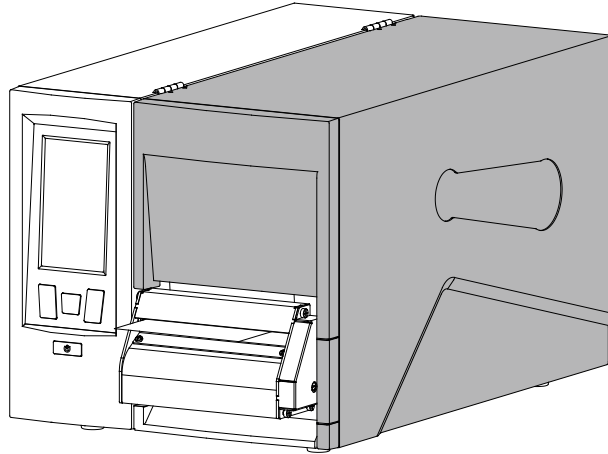

Figure 2-26 Close the Flip-up Cover
7. Close the Flip-up Cover. Enter the LCD touchscreen settings menu, and set the printed label handling mode to Cutter Mode (please refer to 3.2.1.7 Printed Label Handling). As shown in Figure 2-26.